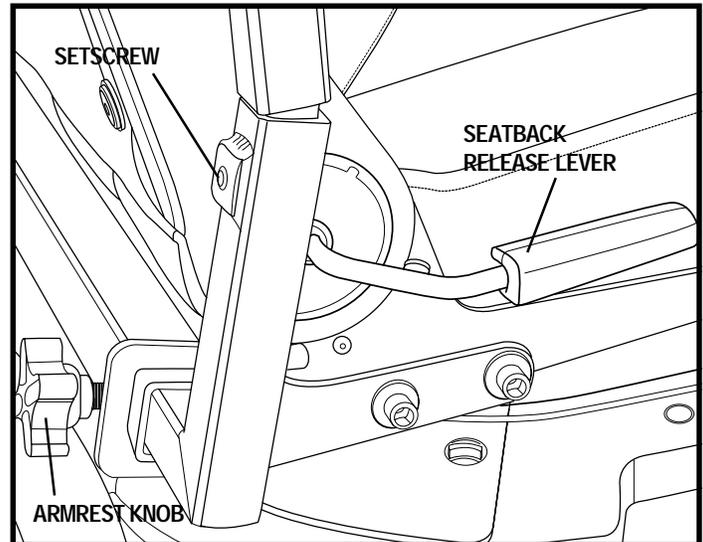

Figure 13. Seat and Armrest Adjustments
If your Flash is equipped with a reclining seat, you can adjust the seatback angle with the seatback release lever. The lever is located on the right side of the seat base. See figure 13.
1. Locate the two armrest knobs on each side of the armrest receiver bracket. See figure 13.
1. Loosen the setscrew on the armrest. See figure 13.